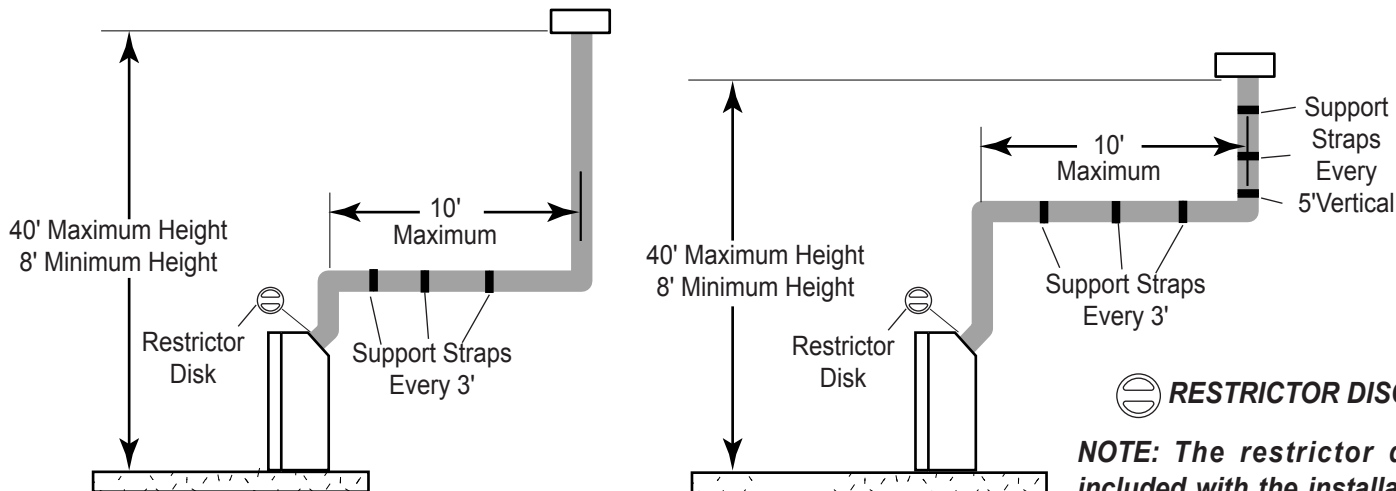

Figure 25- Support Straps for Horizontal Runs
- Vertical installations up to 40' (12m) in height. Up to a 10' (3m) horizontal vent run can be installed within the vent system using a maximum of two 90° elbows. See Figure 25.
**NOTE:** If an offset is needed to avoid obstructions, you must support the vent pipe every three (3) feet. Use wall straps for this purpose. See Figure 25, page 22. Whenever possible, use 45° elbows instead of 90° elbows. The 45° elbow offers less restriction to the flow of the flue gases and intake air.